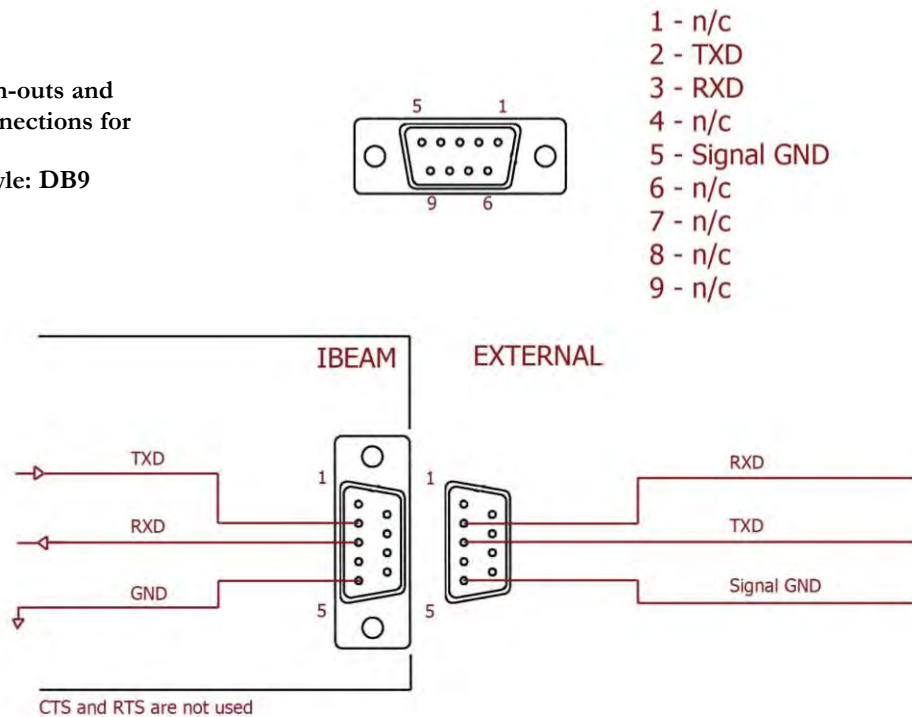

Figure 3.2: Electrical power connections
- STEP 4. Connect the input power (Fig. 3.2).